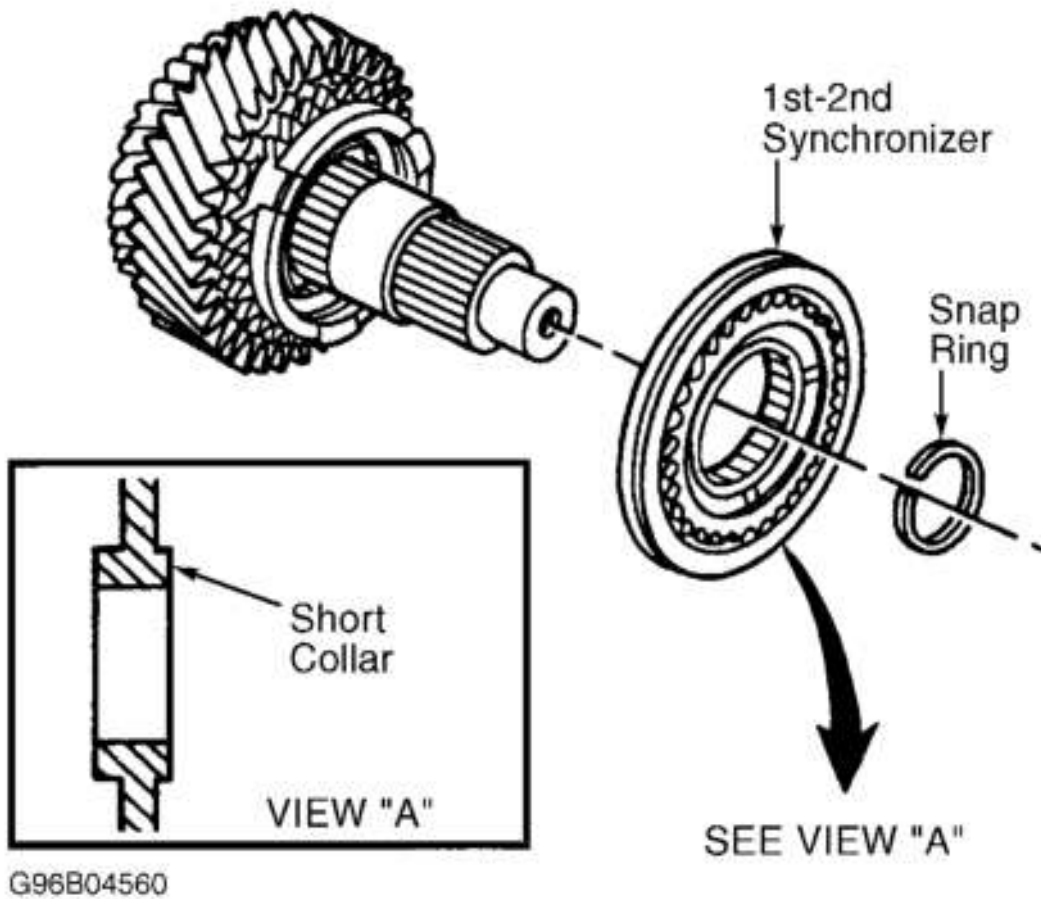

Fig. 7: Installing Synchronizer Assembly
1. Slide needle bearing, blocker ring and 2nd gear onto shaft. Slide 1st-2nd synchronizer assembly into place, ensure short collar faces out. See **Fig. 7**. Install NEW synchronizer snap ring. Install 1st gear synchronizer blocker ring, needle bearing and 1st gear.